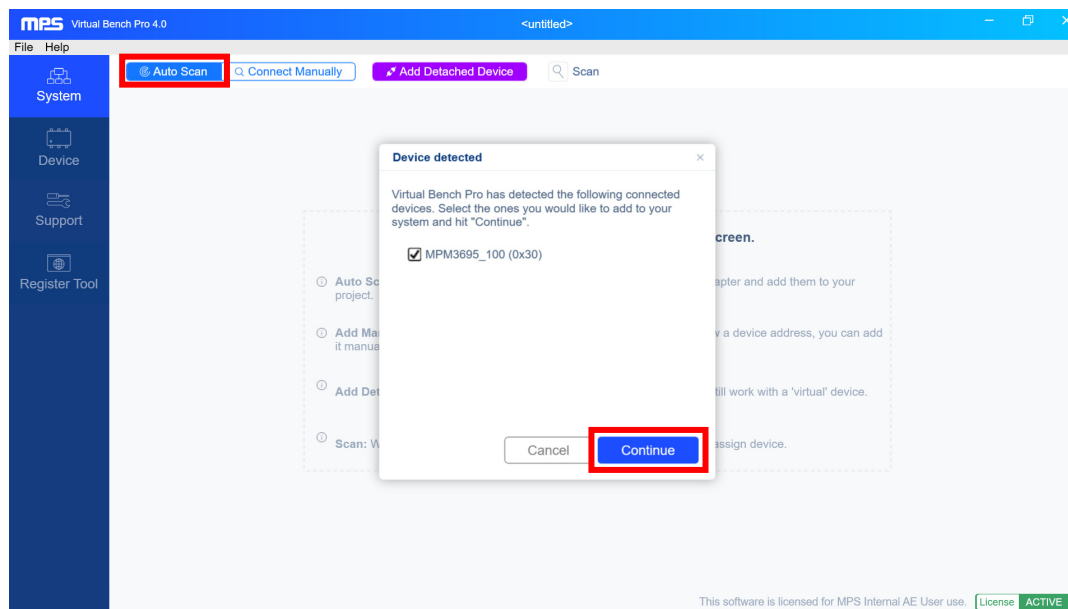

Figure 5: Auto Scan
- Click “Auto Scan” to scan the connected power modules. If the GUI detects the power module, a window appears showing the detection result. Click “Continue” (see Figure 5). If the power module cannot be detected automatically, see the Evaluation Board Connection Issues section on page 7.